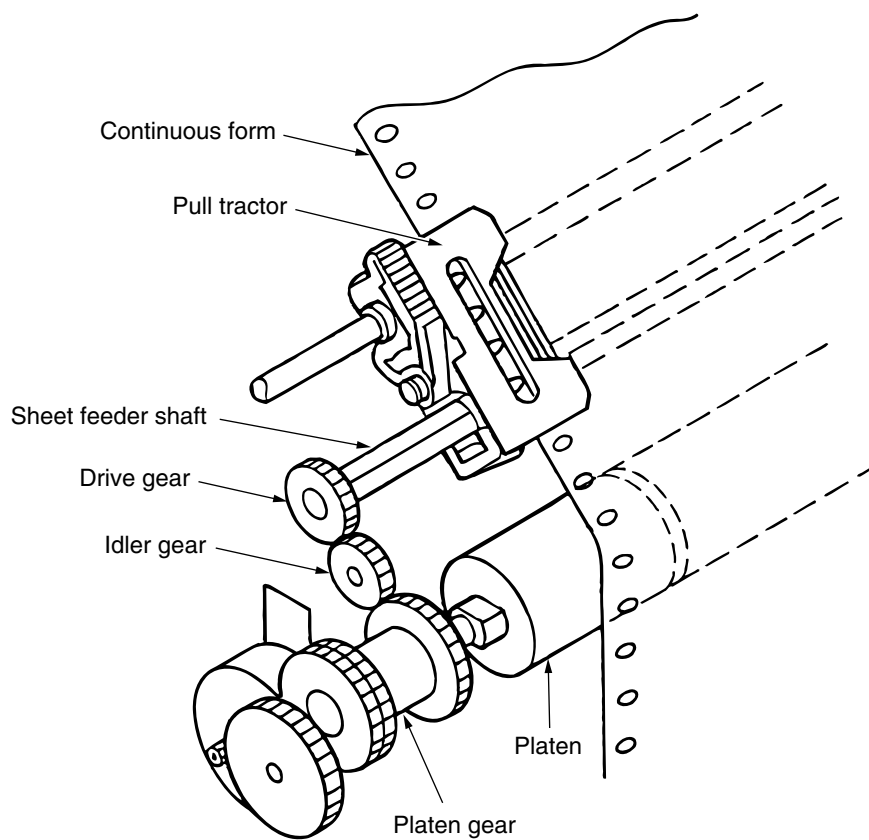

Figure 2-10
(4) Pull tractor mechanism (option) (See Figure 2-10.)